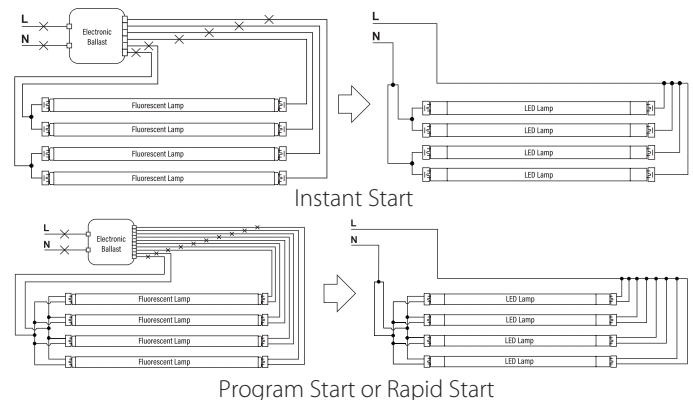

Fig. 5 - Retrofit luminaire with Four Lamps
4) Install the LED U-Bend(Fig.5).
LED U-bend Fig:5